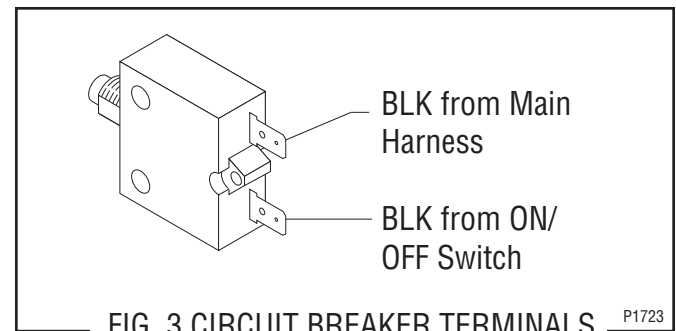

FIG. 3 CIRCUIT BREAKER TERMINALS
5. Refer to Fig. 3 and reconnect the wires.